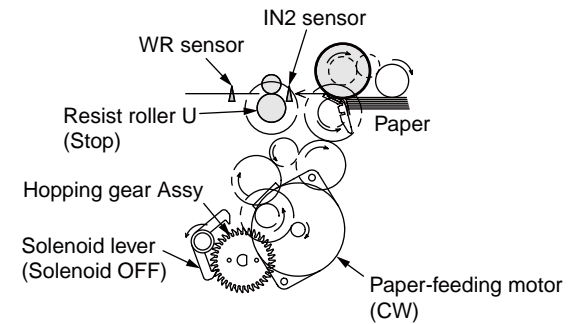

Figure 2-3
1. As shown in Fig.2-3, while the solenoid is set as OFF, the paper-feeding motor is rotated (clockwise) to transfer the paper until the IN2 sensor is turned ON. (When the paper-feeding motor is rotated clockwise, the MPT paper-feeding roller is driven.)